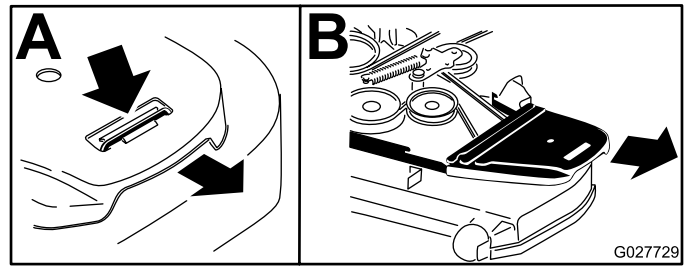

Figure 80
5. Remove the plastic belt cover (Figure 80).
4. Remove the belt covers (Figure 80).